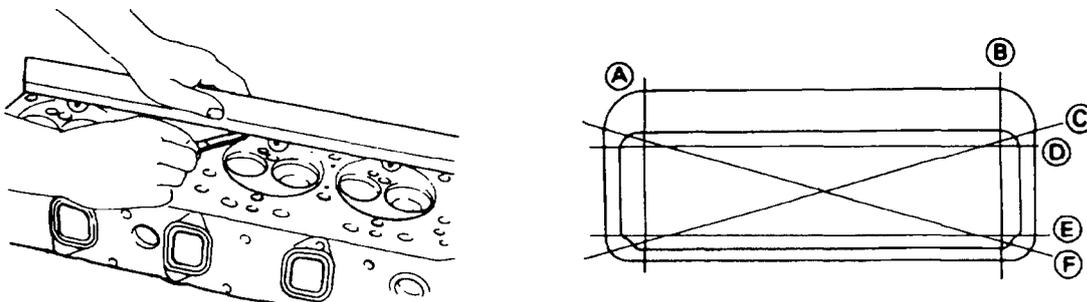

Figure 3 Checking the Cylinder Head Distortion
- Check the cylinder head for distortion using a straight edge and a feeler gauge as shown in Figure 3.